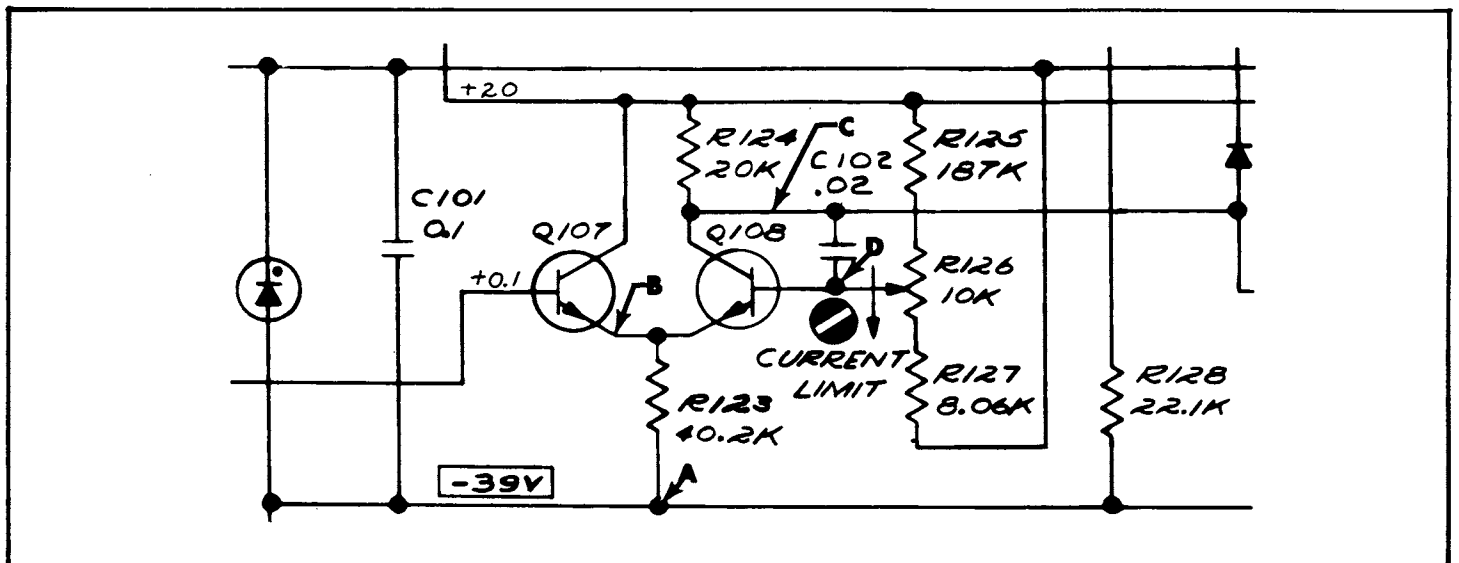

FIGURE 7. Test Points, Current Limit Circuit.
TABLE 5. Current Limit Circuit Voltages. These values were measured with the Model 153 to +15%. The Voltage Dials are set to 000 and the OUTPUT Switch to -. The range from -36 to -44 volts is the limits of the voltages across the zener diode D106. The points B, C, and D are indicated in Figure 7.
d. Voltages within the current limit amplifier vary considerably, depending upon the voltage across zener diode D106. Nominally, the voltage is -39 volts. Table 5 gives the correct values for points in Figure 7 for voltages within the limits of the zener if the instrument is working properly.